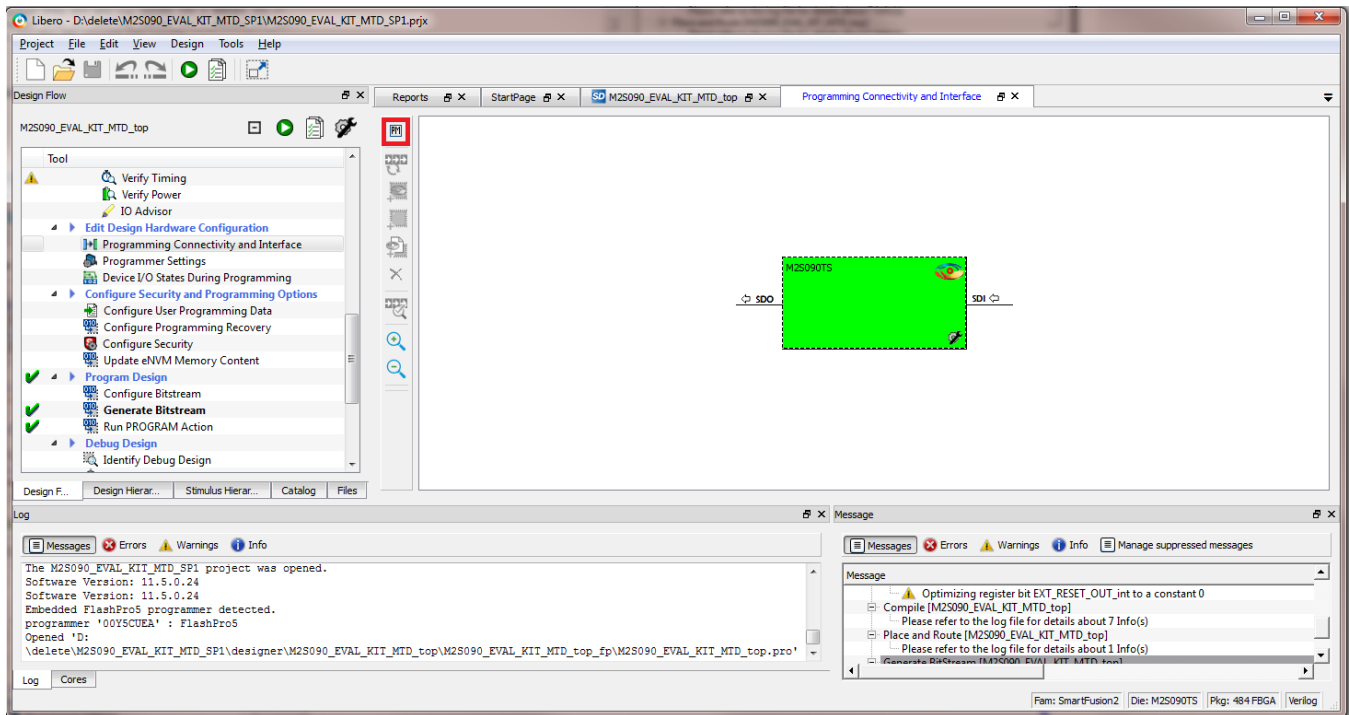

Figure 25 Programming Connectivity and Interface Window
8. The Programming Connectivity and Interface window is displayed as shown in Figure 25.